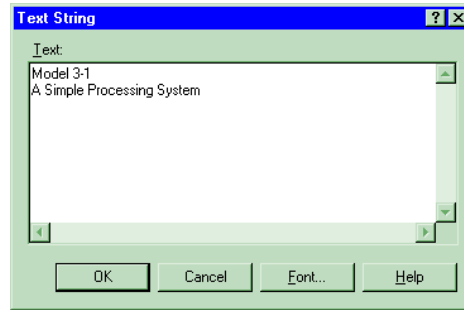

Figure 3-24. The Text String Dialog Box
Model 3-1 has several text labels in the flowchart view of the model window to help document things as well as indicate what's what during the animation. These were produced via the *Text* button (A) on the *Draw* toolbar, which opens a Text String dialog box like the one in Figure 3-24. Type in your text (use *Ctrl+Enter* to go to a new line), perhaps change its font (Times Roman, Arial, etc.), font style (Italics, Bold, etc.), and size via the *Font* button, and then click *OK*. Your mouse pointer becomes cross hairs, which you click to place the northwest corner of the text entry in the flowchart view of your model window. You can drag it around later, as well as resize and reorient it using the underline below it that appears when you select it (hold down the shift key while reorienting it to constrain it to be horizontal or vertical or on a 45° line). To change the text color, select the text and use the *Text Color* button (A ▼) to select either the color of the underline there (click on the A in this case) or to choose a different color (click on the ▼ in this case and select a color from the palette), which will also become the new underline color.